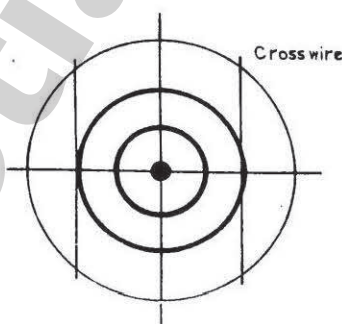

Figure 2.
- Set the crosswire tangential to the ring as shown in fig 2. Note down the microscope readings (both main scale and circular scale).